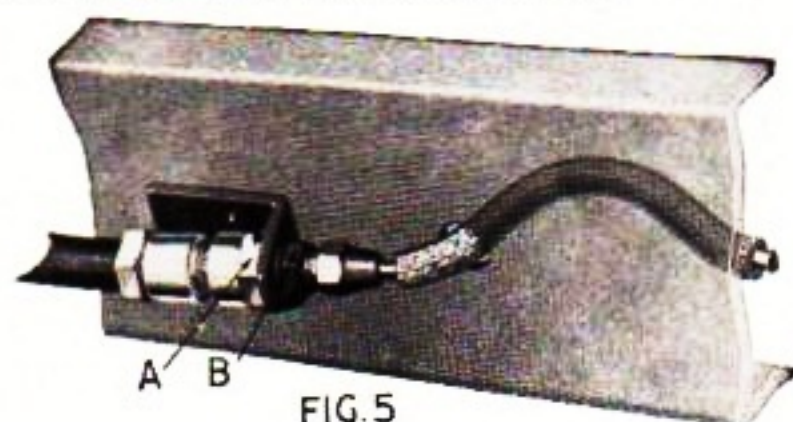

FIG. 5
The differential used in this model is of the two pinion type, the construction of which is shown in Figures 5 and 6. In this type, the thrust is taken care of by two Timken taper roller bearings at the outer ends of the axle.
(Figure 5)
The Ring Gear (A) and Differential Bearings (B) (Figure 5) are adjusted and tested, then locked in the quietest running position before leaving our plant; therefore, the only adjustment that may be necessary
First, remove rear axle housing cover. Now remove lock screw (D) (Figure 5 left side only). This will permit removal of lock (C-left side only). Next loosen cap screws (E-left side only) slightly. Do not disturb right hand side at this time. Place a small bar in one of the slots at the edge of differential bearing adjuster (F).